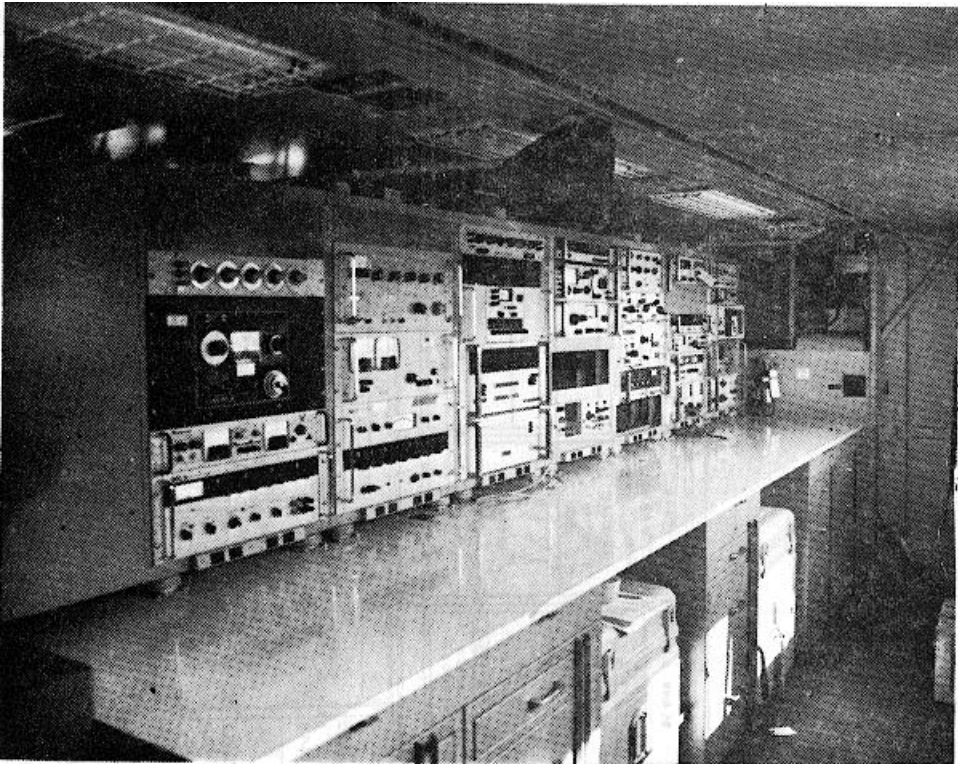

Figure 1-3. Equipment mounted in racks.
(2) The components of the AN/GSM-286 are secured in shock mounted racks that provide shock isolation (fig. 1-3). The rack-mounted equipment faces the curbside. Nonelectrical equipment is calibrated on the street side of the work bench. Figure 1-4 depicts the mounting plate for torque wrench calibrators.